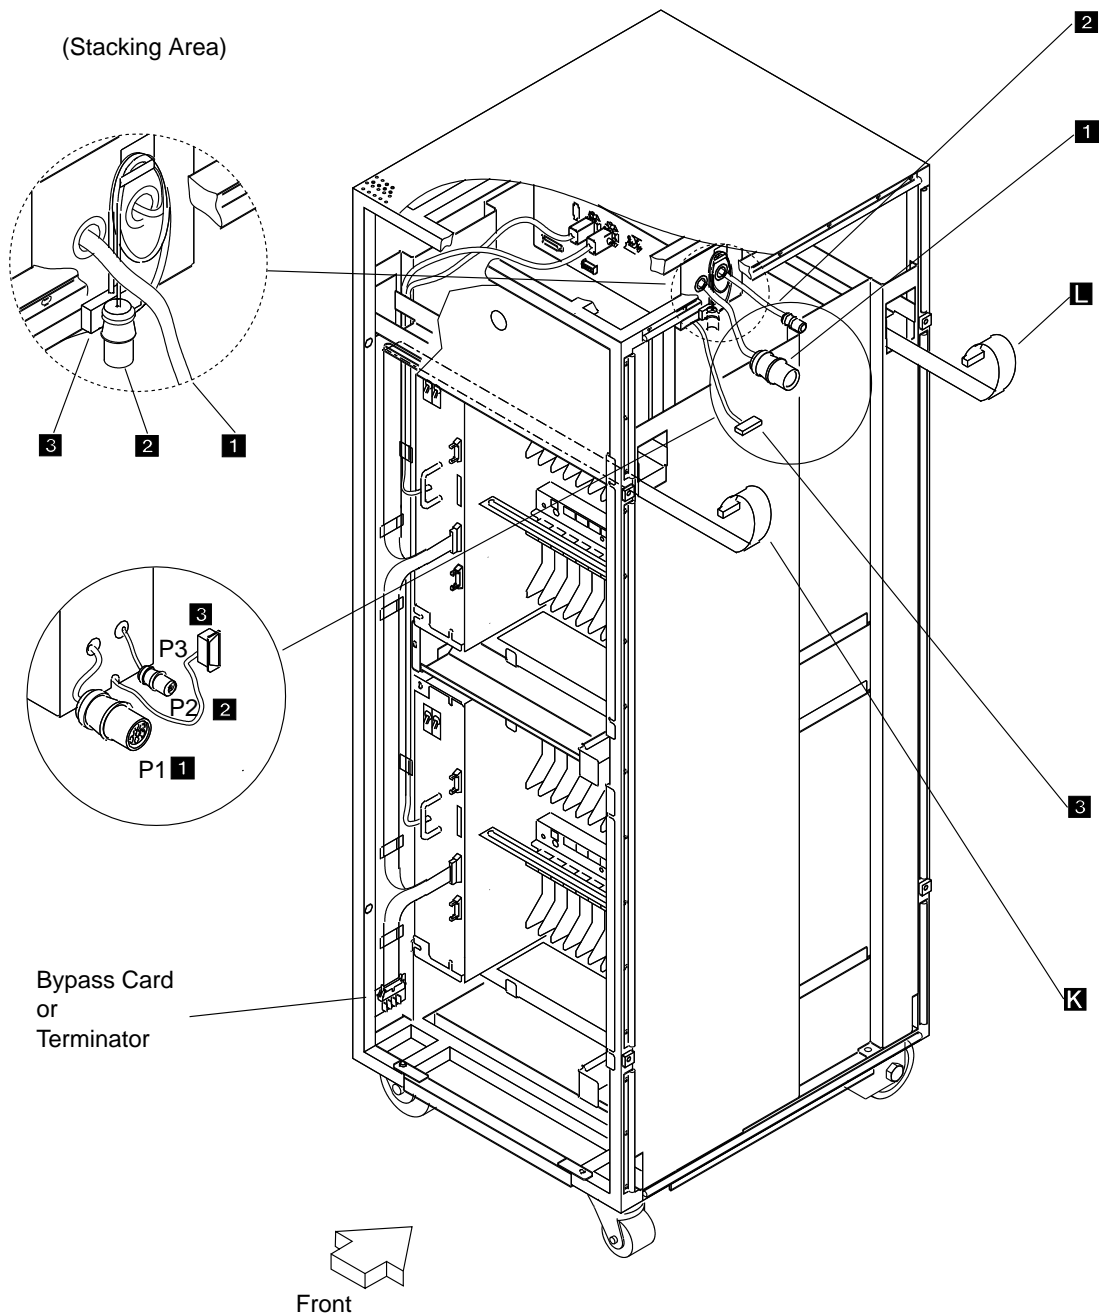

Figure 5-15. Cables from the 3746-L14 (Front View)
- \_\_\_\_ See Figure 5-15 on page 5-17, and familiarize yourself with the table at the top of the page.
- Step 1. \_\_\_\_ Referring to Figure 5-15 on page 5-17, locate the AC power cable **1**, and the DC cable **2**.
- d. \_\_\_\_ Referring to Figure 5-15 on page 5-17, in the 3746-L14 locate the front flat cable **K**, labeled 04H-A0. Route cable **K** to the front of the adjacent 3746-L13, and plug it to the lower side of the bypass card now at 04H-A0.
- d. \_\_\_\_ Referring to Figure 5-15 on page 5-17, in the 3746-L14 locate the rear flat cable **L**, labeled 04J-A0. Route cable **L** to the rear of the adjacent 3746-L13, and plug it to the lower side of the bypass card now at 04J-A0.
- Step 1. \_\_\_\_ Referring to Figure 5-15 on page 5-17, in 3746-L14 locate the cable **3** labeled P3.